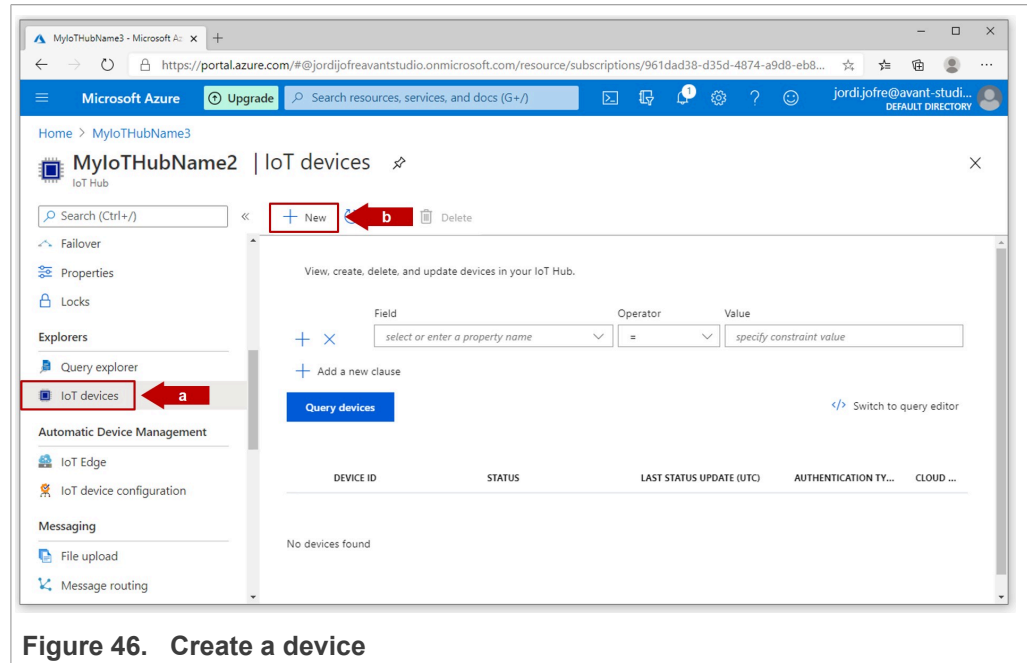

Figure 46. Create a device
1. In your Azure IoT Hub resource, do as shown in Figure 46: